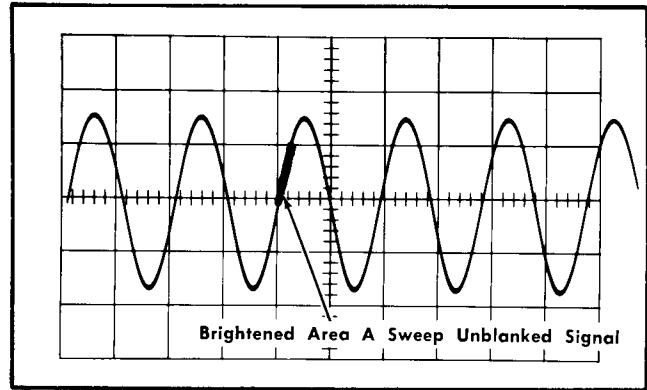

Fig. 3-7. B INT by A Operation.
3. B INTEN BY A—With the HORIZONTAL DISPLAY switch in the B INTEN BY A position, the operation of the lockout multivibrator is almost identical to the operation in A DLY'D position. The horizontal amplifier, however, receives the Time Base B sweep. Time Base A Generator provides only the unblanking signal to the CRT for the intensified portion of the display when the delayed action of Time Base A occurs (see Fig. 3-7).